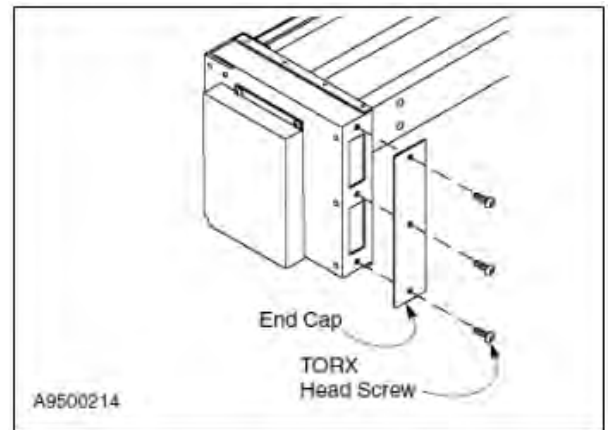

Figure 56
4. Remove the associated end cap from the head assembly to expose the upper end of the spring strap. Each end cap is held in place with three, 20-mm-long, TORX® head screws. (See Figure 56.)